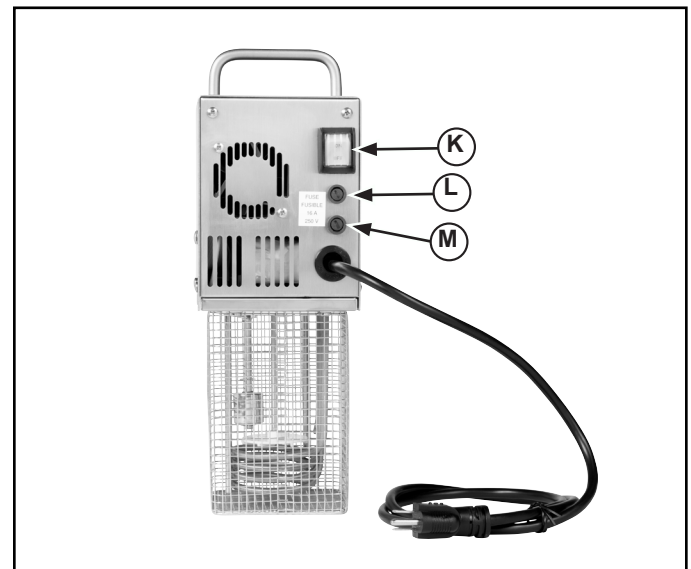

Figure 2. Back of Control Panel.
4. Switch the power switch (K) to the “ON” position. See Figure 2.
1. If a program is running, stop it and switch the power switch (K) to the "OFF" position. See Figure 2.